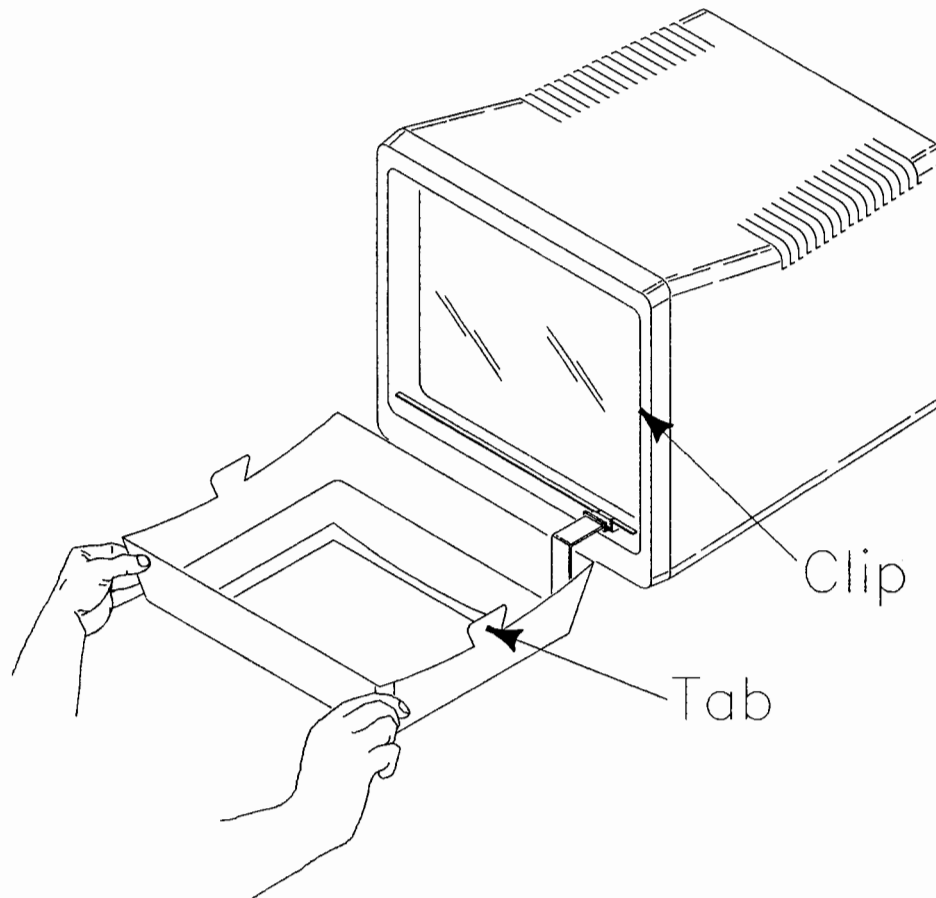

Figure 6-5.
6. Hold HP Touch in front of the monitor. Tilt the top of HP Touch toward the monitor. Line up the upper edge of HP Touch's side mounting tabs so that they slip under the retainer clips on the monitor (Figure 6-5).